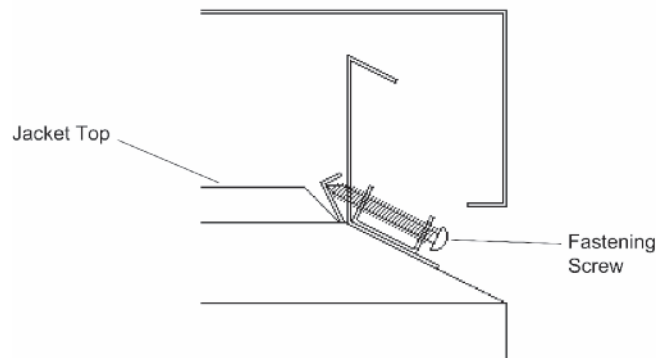

Fig. 6: Tighten the (4) Screws (TYP.)
2. Tighten the (4) screws (See Fig. 6) until they come in contact with the unit jacket top, then evenly tighten all (4) screws to secure to unit.